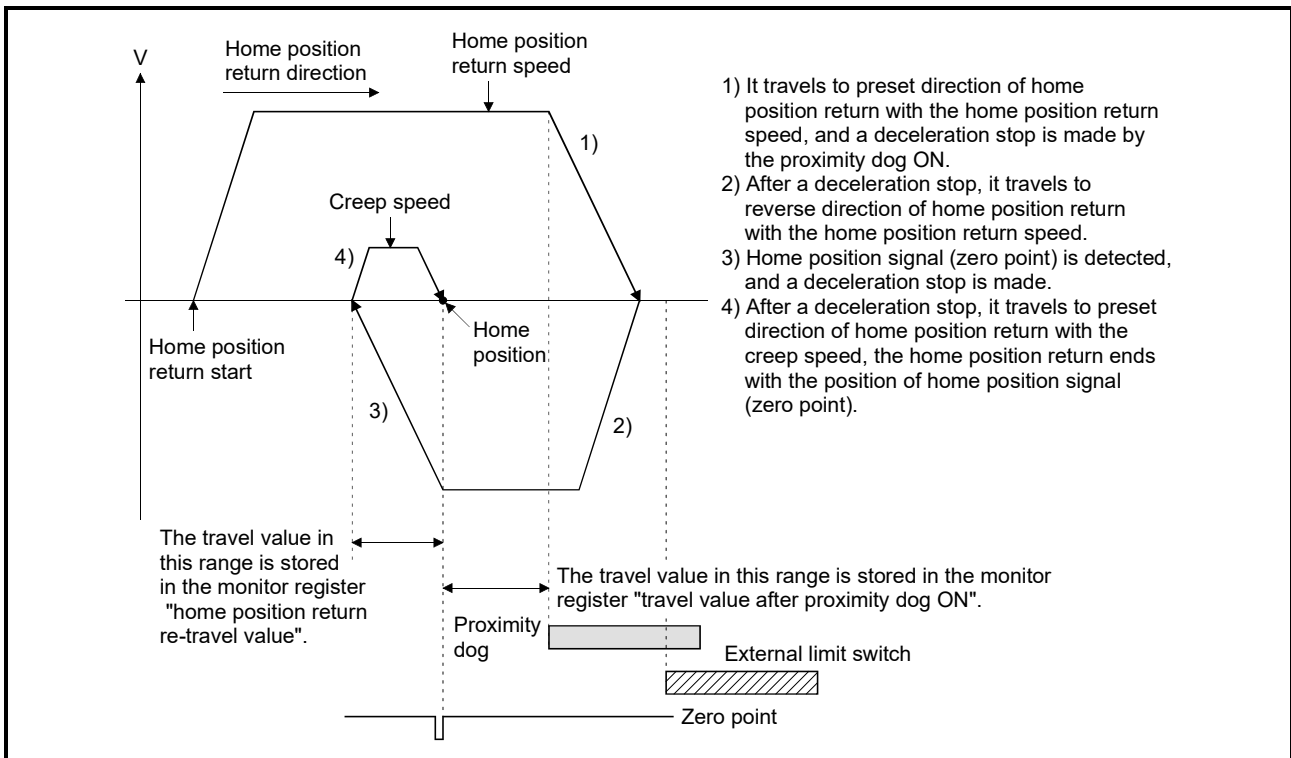

Fig. 6.44 Home position return operation by the scale home position signal detection method
(4) Cautions
- (g) An error always occurs without the proximity dog in home position return direction from home position return starting position, so that the proximity dog is set before limit switch of home position return direction for making the proximity dog overlap in limit switch like Fig. 6.44. And, when home position return is executed in the proximity dog, an error will occur if zero point is not in reverse direction of home position return from home position return starting position.